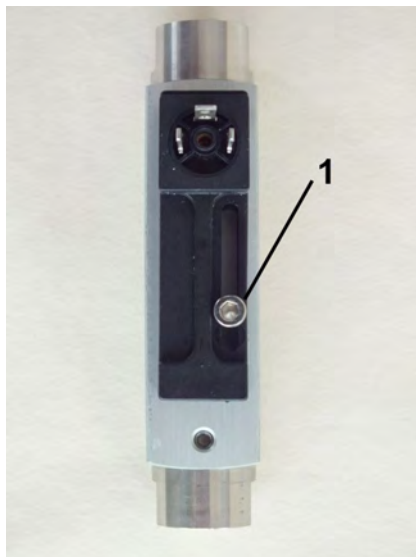

Fig. 32: Loosen set screw
2.  Loosen the set screw of the switch contact (Fig. 32/1) using a hex screwdriver.
- 6.  Re-tighten the switch contact set screw (Fig. 32/1) using a hex screwdriver. When doing so, observe the correct tightening torque of the screw.